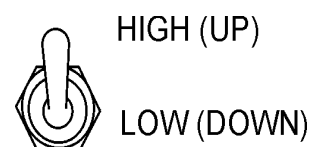

Figure 54. Engine Speed Switch (high)
12. Once the engine is warm and the engine is running properly, set the engine speed switch to 'High' (Figure 54).